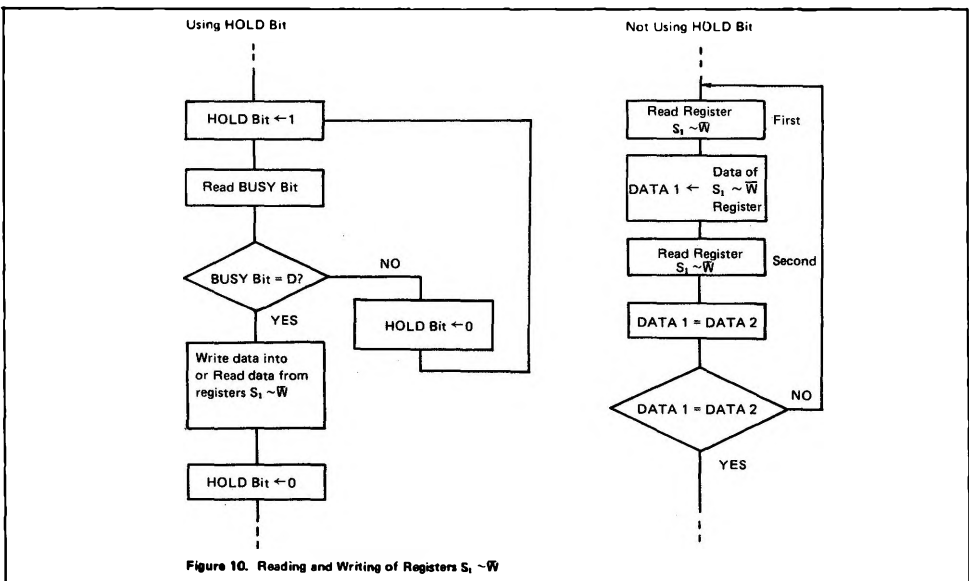

Figure 10. Reading and Writing of Registers  $S_1 \sim W$
- b) BUSY (D1) – Status bit which shows the interface condition with microcontroller/microprocessors. As for the method of writing into and reading from  $S_1 \sim W$  (address  $\phi \sim C$ ), refer to the flow chart described in Figure 10.